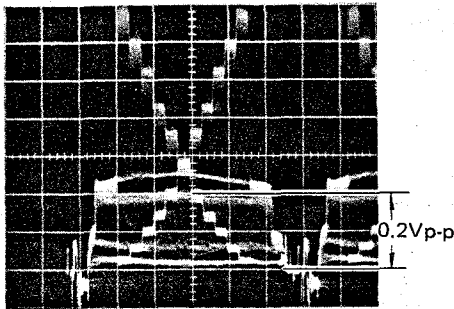

Fig. 6-4-19
- Adjust INPUT GAIN VR301 so that voltage between the OB level and the fourth step of the gray scale is 0.2V. (Fig. 6-4-19)